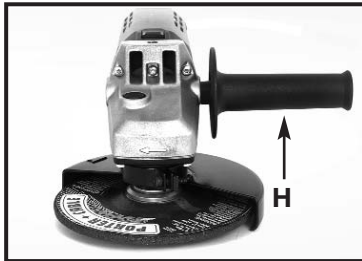

Fig. 2
An auxiliary handle (H) Fig. 2 is furnished with this tool and can be installed on either side of the front housing. This handle should be used **AT ALL TIMES** to maintain complete control of the machine.